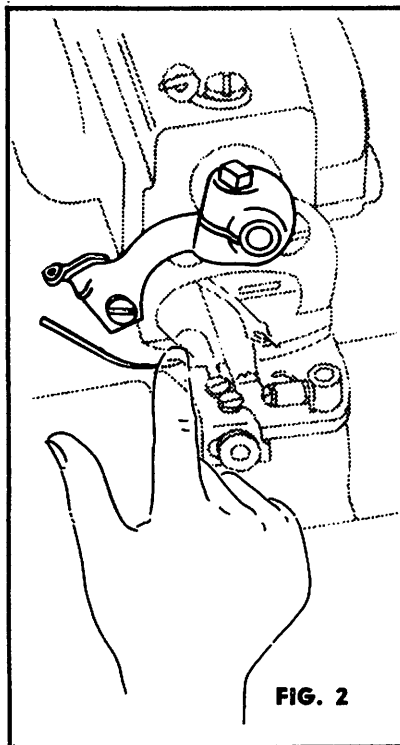

FIG. 2
1. Place good new needle in groove of presserfoot and hold in place with right index finger (Fig. 2). With tilting motion of right thumb (Fig. 3), tilt shank of needle to right in between Needle Clamp (B) and Needle Lever (C) and into groove of Needle Lever.